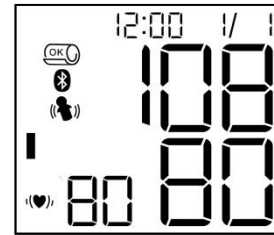

Figure 8-2
- d. Inflation will stop as soon as the blood pressure and pulse rate have been calculated and displayed on the LCD (See Figure 8-2).